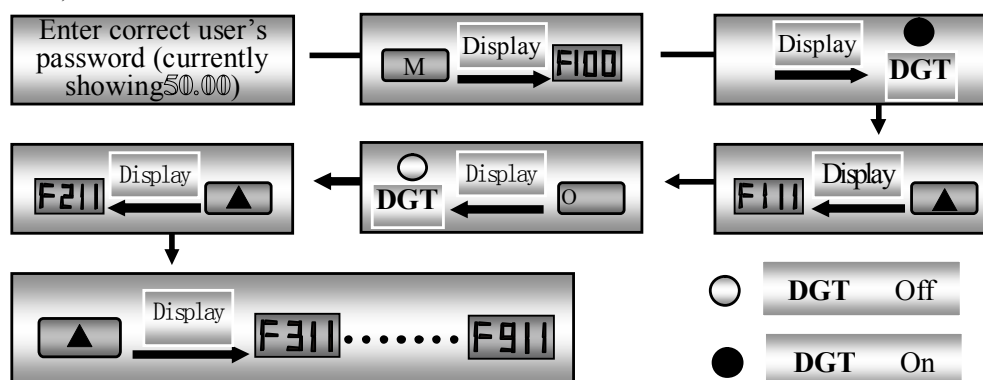

Fig 2-2 Switch over in a Code Group or between Different Code-Groups
e.g. when function code shows F111 and DGT indicator is on, press “▲”/“▼” key, function code will keep increasing or decreasing by degrees within F100~F160; press “O” key again, DGT indicator will be off. When pressing “▲”/“▼” key, function codes will change circularly among the 10 code-groups, like F211, F311...FA11, F111..., Refer to Fig 2-2 (The sparkling “50.00” is indicated the corresponding target frequency values).